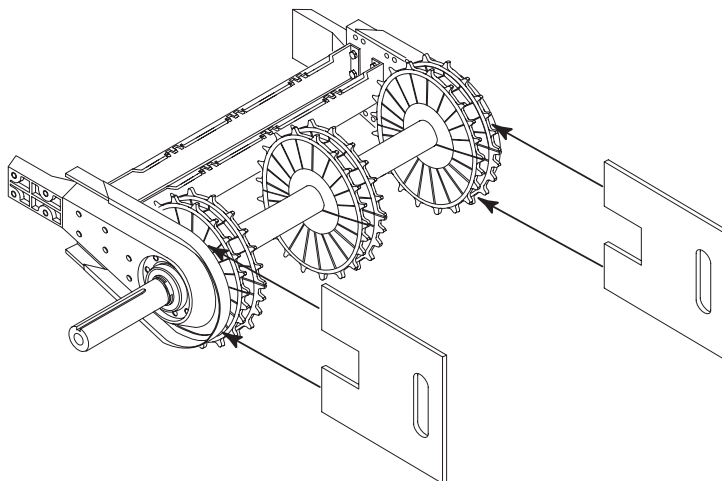

Figure 98
- Loosen the bolts in the sprocket that is rubbing against the side plate. Place a shim plate 0.075" (2mm) thick between the side plate and the sprocket, as shown in *Figure 98*, and tighten the sprocket bolts. Remove the shim plate. While turning the shaft several times, make sure the sprocket is no longer rubbing against the side plate. If this does not help the problem, replace the rubbing sprocket with a new one.